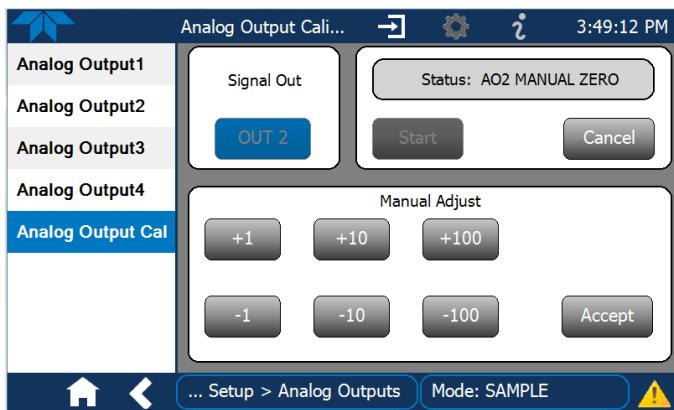
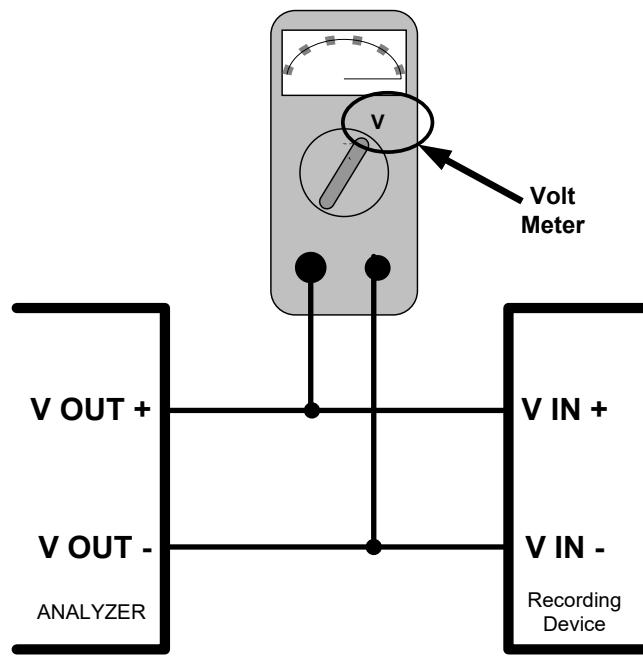

Figure 2-59. Analog Outputs Manual Calibration Screen (AOOUT2 Example)
Figure 2-60. Setup for Checking / Calibrating DCV Analog Output Signal Levels
- MANUAL for individual calibration (Figure 2-59) of analog outputs where manual adjustments can be made (the only calibration type allowed when Current is selected for the Range). See Sections 2.5.8.1 and 2.5.8.2 .
It is possible to manually calibrate the voltages by using a voltmeter connected across the output terminals (Figure 2-60) and changing the output signal level in the Manual Adjust field of the Analog Outputs Calibration screen (Figure 2-59). Refer to Table 2-17 for voltage tolerances.